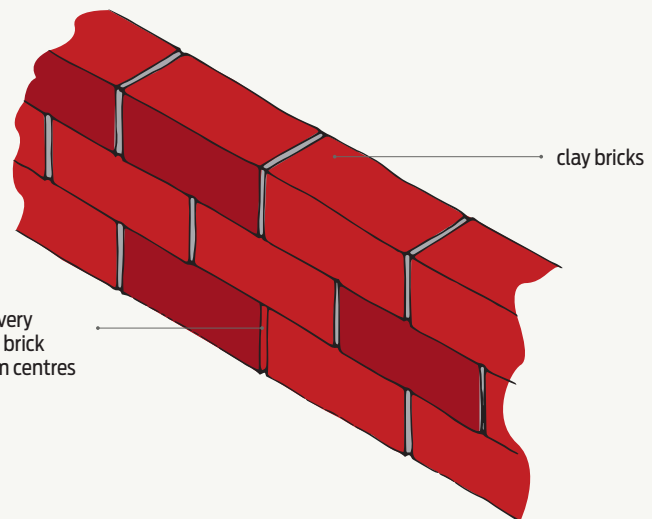

Figure 1 Gaps must be left at the bottom of brick veneer.
- the drainage slots at the bottom of brick veneer walls at 800 mm centres maximum, i.e. every third perpend should be left open to allow for drainage (see Figure 1)